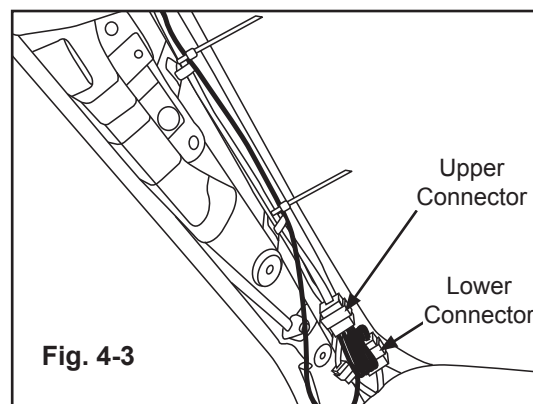

Fig. 4-3
c) Plug the male connector side of the EC harness into the lower OE connector and plug the female connector side of the EC harness into the upper portion of the OE harness. (Fig. 4-3)